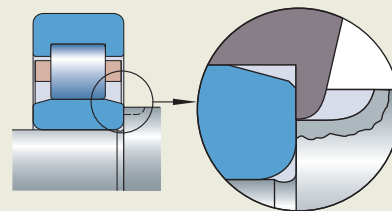

Fig. 9
- threaded holes in the housing shoulders so that bolts can be used for dismounting (fig. 9)